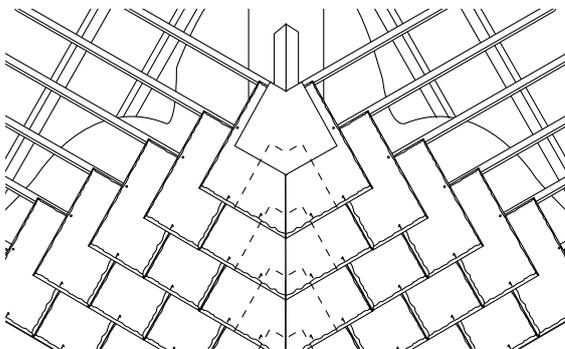

Fig. 18 Close mitred hip with lead soakers
- 2 Fix slate battens onto the counter battens trimming and fixing the ends to the hip rafter and align on each slope. Insert lead soakers in every course up the hip (Fig. 18).